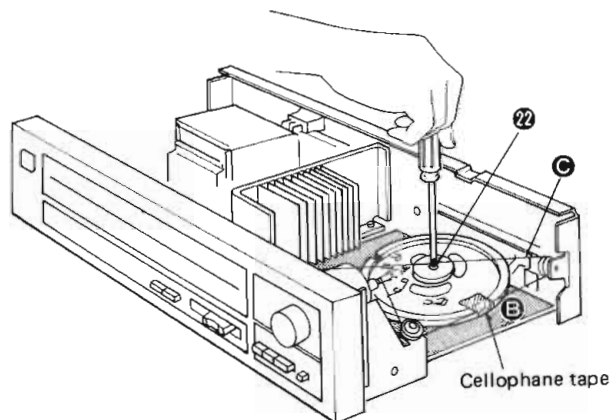

Fig. 5
2. Set the dial to the start position (minimum frequency), then stick a cellophane tape to the contact **(B)** of dial cord (Fig. 5) so that the dial drum will not come loose from the dial cord.
3. Remove the 1 setscrew (Fig. 5 : **(22)**) from the dial drum.
4. Remove the dial cord from the pulley. (Fig. 5 : **(C)**)